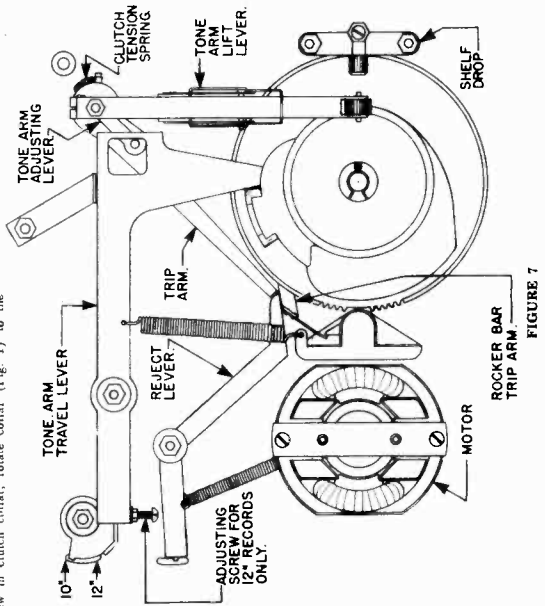

FIGURE 7
To adjust tone arm drop, place gauge on turntable, large hole (A) over spindle, place needle in tone arm and then place tone arm so the needle sets in small hole marked "NEEDLE SET FOR 10\". Throw 10" record lever in correct position. The tone arm adjusting lever, see Fig. 7, must have its stud in contact with the tone arm travel lever, this lever must be in contact with the cam and then tighten. Check operation and repeat until tone arm drops in correct position.